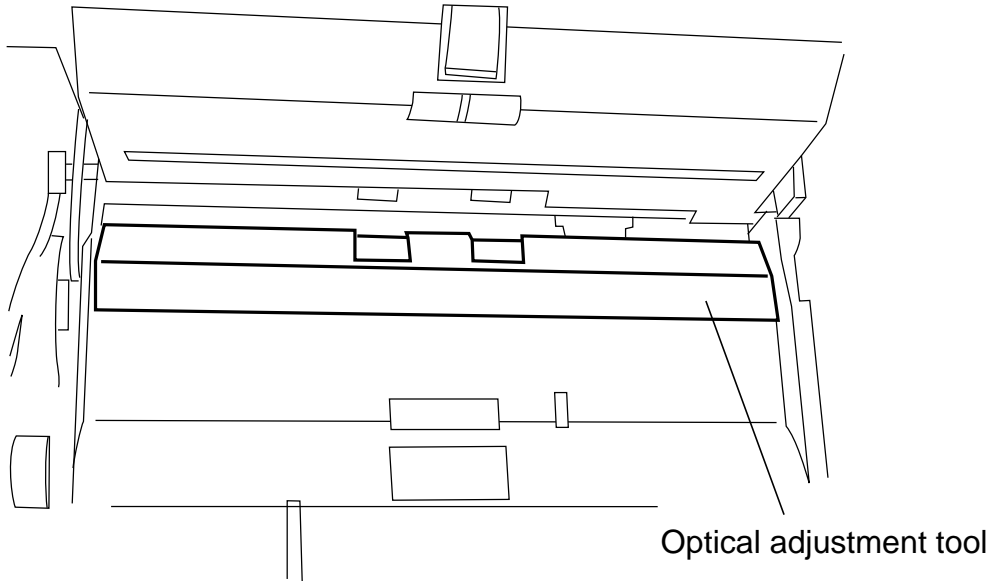

Fig. 7
- 5) Open Operation Panel. Then unit the optical adjustment tool on the lower document guide. (Fig. 7)